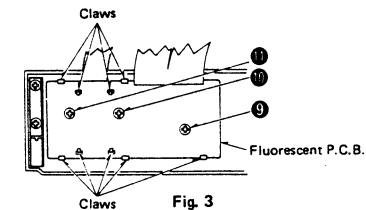

Fig. 3
- Remove the 3 setscrews [Fig. 3 ; ⑨ ~ ⑪] of the fluorescent display tube P.C.B. and release the 9 claws, then the fluorescent display tube P.C.B. can be removed.
2. Remove the 3 setscrews [Fig. 3 ; ⑨ ~ ⑪] of the fluorescent display tube P.C.B. and release the 9 claws, then the fluorescent display tube P.C.B. can be removed.